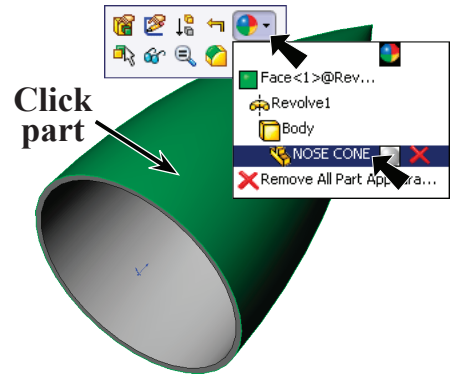

Fig. 12
Step 1. Click the Nose Cone, click **Appearance Callout** on the Content toolbar and click **NOSE CONE**, **Fig. 12**.